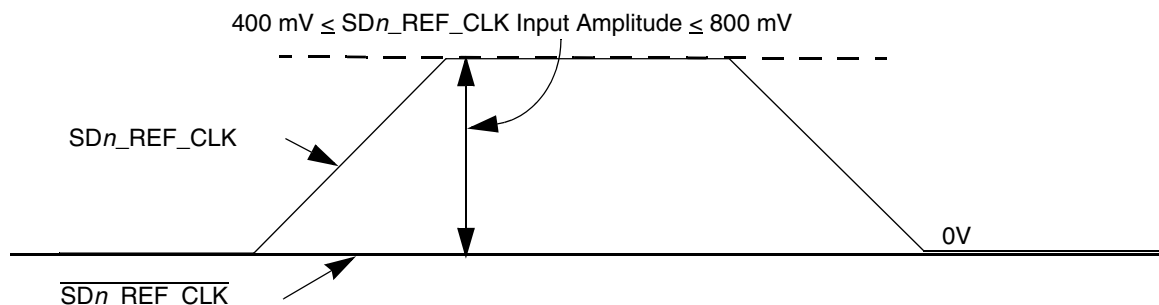

Figure 42. Single-Ended Reference Clock Input DC Requirements
- The SDn_REF_CLK input average voltage must be between 200 and 400 mV. Figure 42 shows the SerDes reference clock input requirement for single-ended signaling mode.